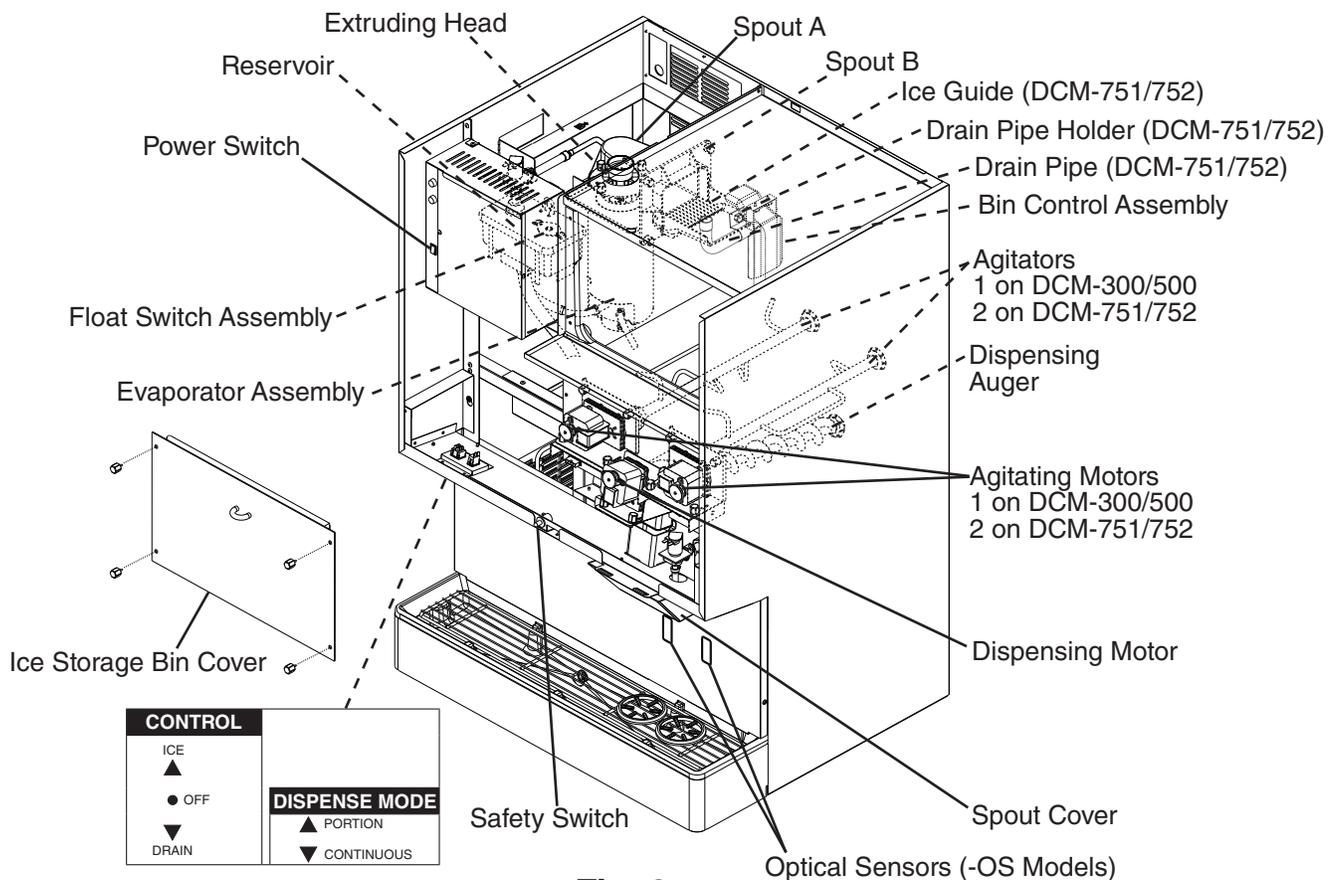
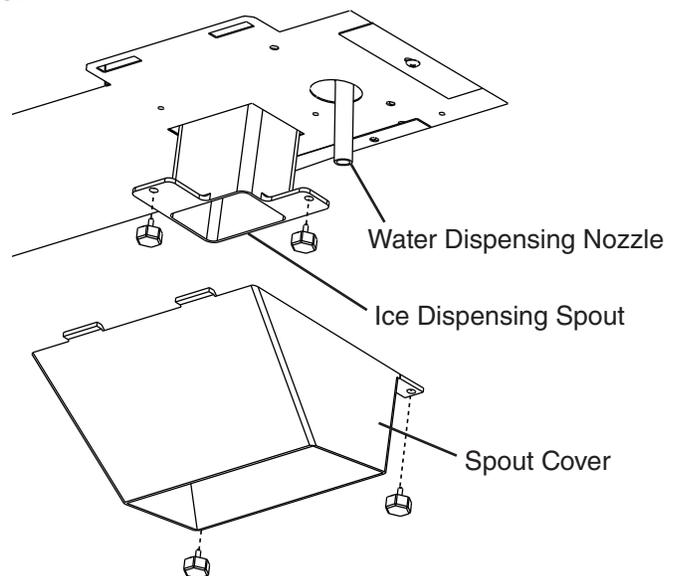

Fig. 9
Fig. 11
- 2) Move the control switch to the "OFF" position, pause momentarily, then move to the "DRAIN" position. See Fig. 9. Allow the water system to drain for 5 minutes.
- 4) Remove the motor bracket thumbscrews, first from the vertical plane and then from the horizontal plane. While holding on to the corresponding agitator or auger, move the agitating motor or the dispensing motor towards you. Remove the agitator(s) and the dispensing auger from the ice storage bin. See Fig. 9.
- 8) Remove the spout cover, ice dispensing spout, and water dispensing nozzle. See Fig. 11. On DCM-751 and DCM-752 models, also remove the ice guide, drain pipe holder, and drain pipe from the ice storage bin. See Fig. 9.